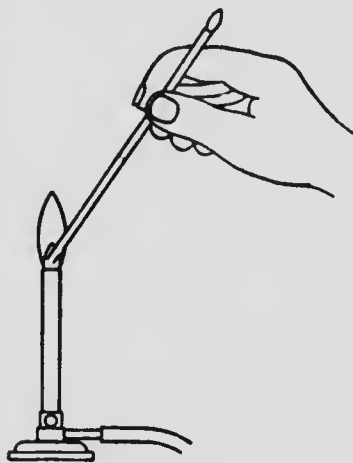

FIG. 51.
**Sketches.**—Figs. 51, 52 and 53.
6. Pipe off some of the gases from the middle of the flame and light them as shown in Fig. 51.